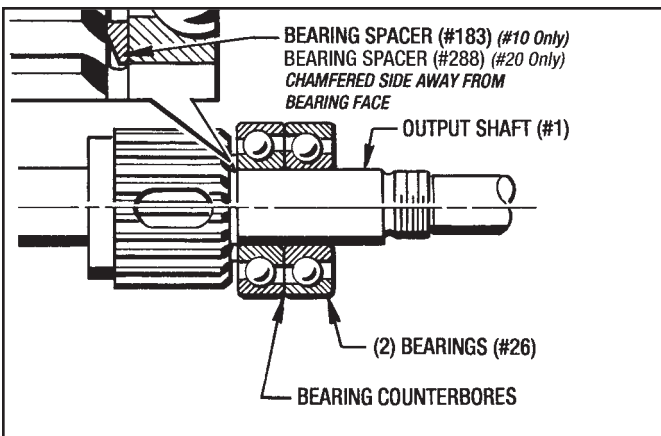

Figure 9.3 - Installing Outboard Bearings
1. Press (2) Outboard Bearings (#26) onto the Output Shaft (#1) using an Arbor Press. **NOTE:** First install Bearing Spacer (#183) for #10 Posidyne and (#288) for #20 Posidyne as shown in Figure 9.3.
#10, #11, #14 and #20 Posidyne Outboard Bearings (#26) must be installed with the Counterbores facing each other. (See Fig. 9.3)